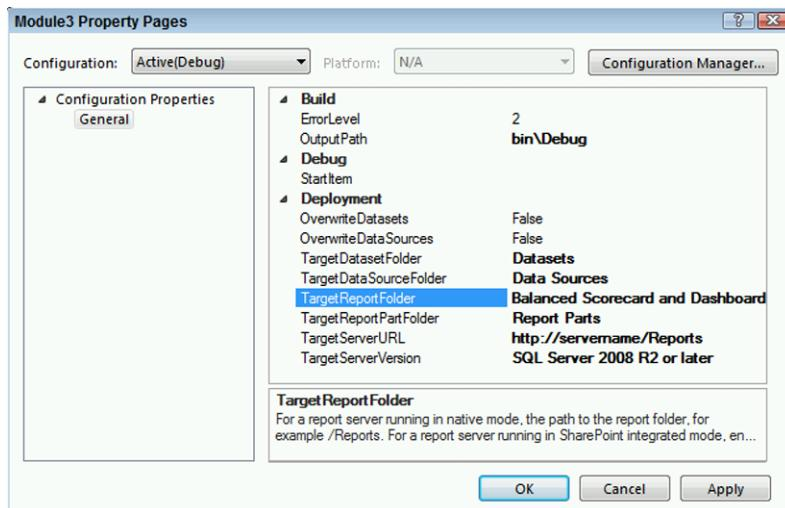

Figure 9-7
2. On the General page, type in the appropriate TargetServerURL and TargetReportFolder, as shown in Figure 9-7. The TargetServerURL is typically a path similar to the following: `http://<servername>/ReportServer`. Click OK.